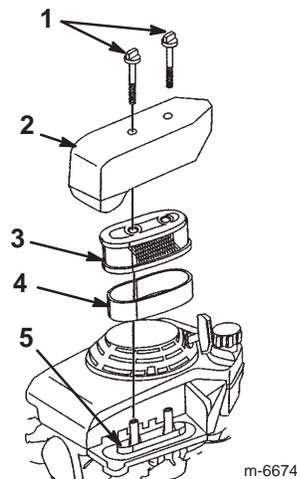

Figure 21
3. Remove the 2 wing bolts that secure the cover (Fig. 21).
5. Remove the foam and paper elements from the base (Fig. 21).
6. Remove the foam element from the paper element (Fig. 21).